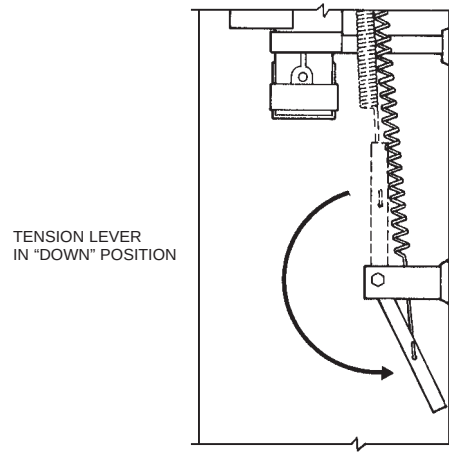

FIGURE 8-19
- 25. Lower tension lever to “DOWN” position. See Figure 8-19.